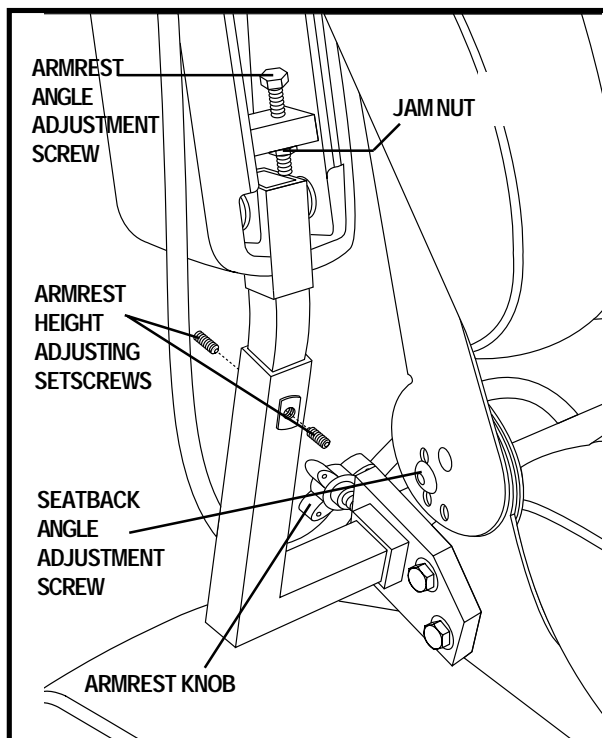

Figure 23. Seatback and Armrest Adjustments
1. Remove the seatback angle adjustment screws from both seat hinges. See figure 23.
1. Locate the two armrest knobs on each side of the armrest receiver bracket. See figure 23.
1. Loosen the two setscrews located on the armrest receiver. See figure 23.
2. Loosen the jam nut. See figure 23.